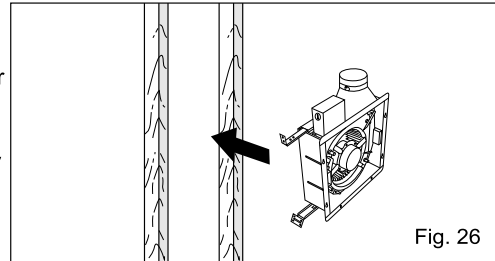
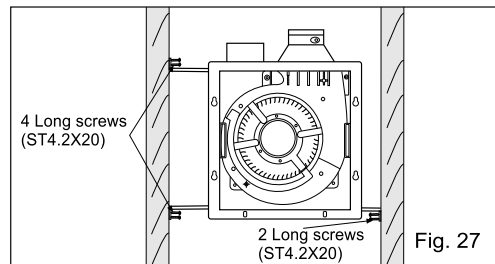

Fig. 26
Fig. 27
4. Secure the suspension bracket to studs by using long screws (ST4.2X20). (Fig. 26, Fig. 27)